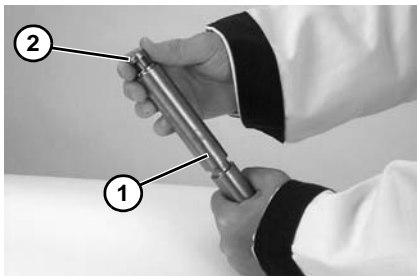

Figure 59
2. Inspect spindle (**Figure 59, item 1**). Replace if worn.
3. Slide bearing (**Figure 59, item 2**) onto spindle.